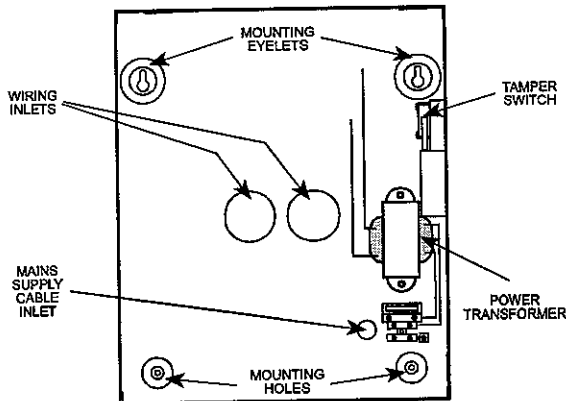

Figure 5-4.
- An AC line transformer (see Figure 5-4)
- A tamper switch (see Figure 5-4)